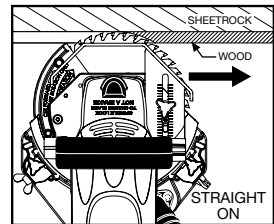
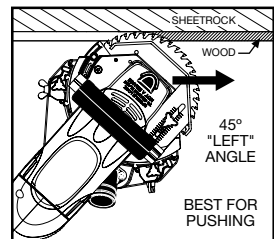

Figure 8
Figure 9
- When undercutting wood base or other trim, set depth to cut the thickness of the wood only (Figure 8). Cutting sheetrock makes dust that damages the saw.
- The depth gauge controls the depth of cut at any of three angles: straight-on (Figure 8), 45° "left" (Figure 9), or 45° "right" (Figure 10).
- Cutting at a 45° "left" angle is most efficient for pushing the saw (Figure 9). This is recommended for wood undercutting only using the carbide blade (#836).